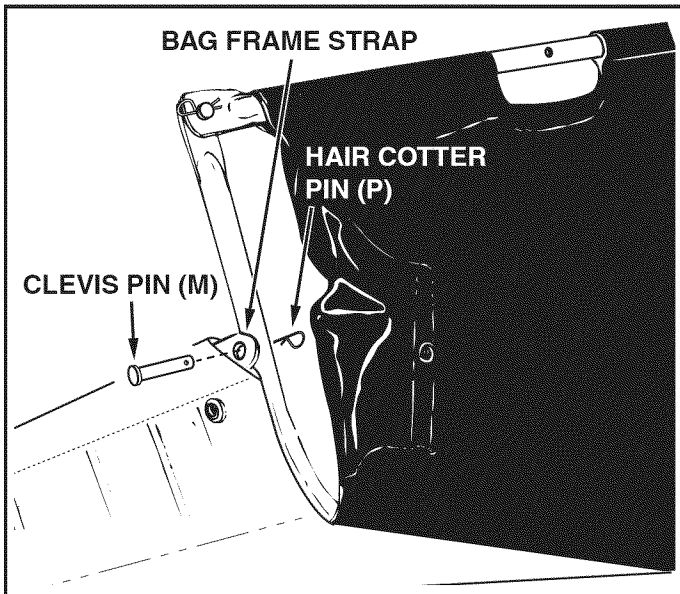

FIGURE 11
- Assemble the bag frame strap to the holes in the lower hopper tubes using two clevis pins (M) and hair cotter pins (P). See figure 11.